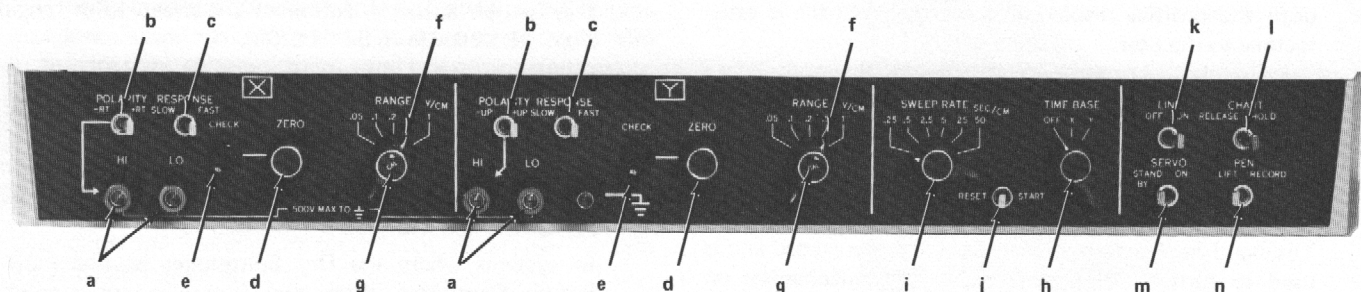

Figure 11 - X-Y-T Recorder - Front Panel
#### A.8. X-Y-T Recorder - Front Panel (Figure 11)
**NOTE 2:** Refer to Figure 11 for identification of the X-Y-T Recorder's front panel controls.